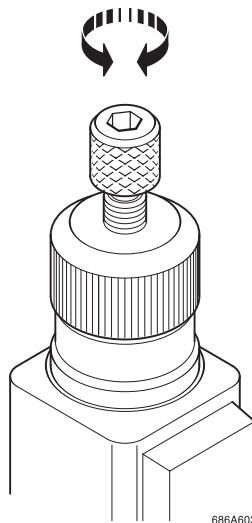

Figure 7. 5 Tail lift Valve Head
- 7.20.1.10 To swing down the tail lift operate **SV30b**, screw in both the **SWING** cylinder knurled screws (one on each cylinder) (refer to Figure 7. 6 for location) slowly until movement occurs. To stop the swing down, screw out the knurled screws on the valves.